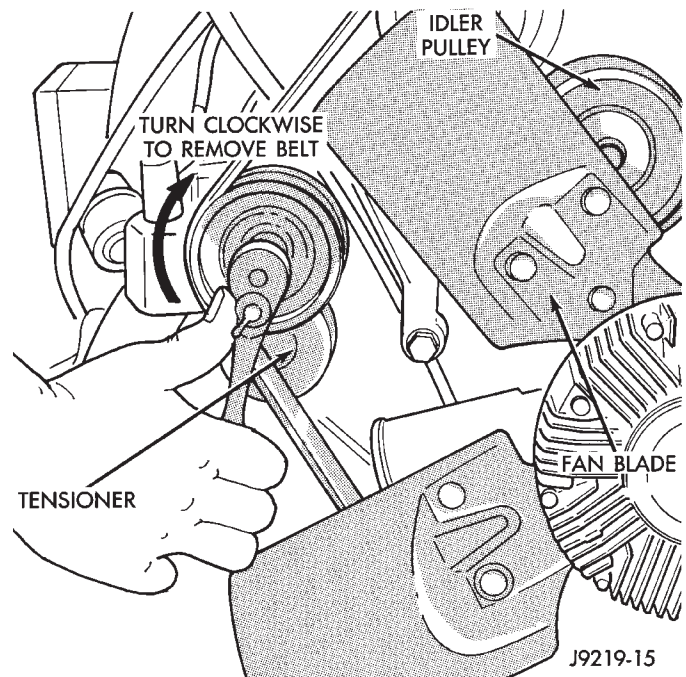
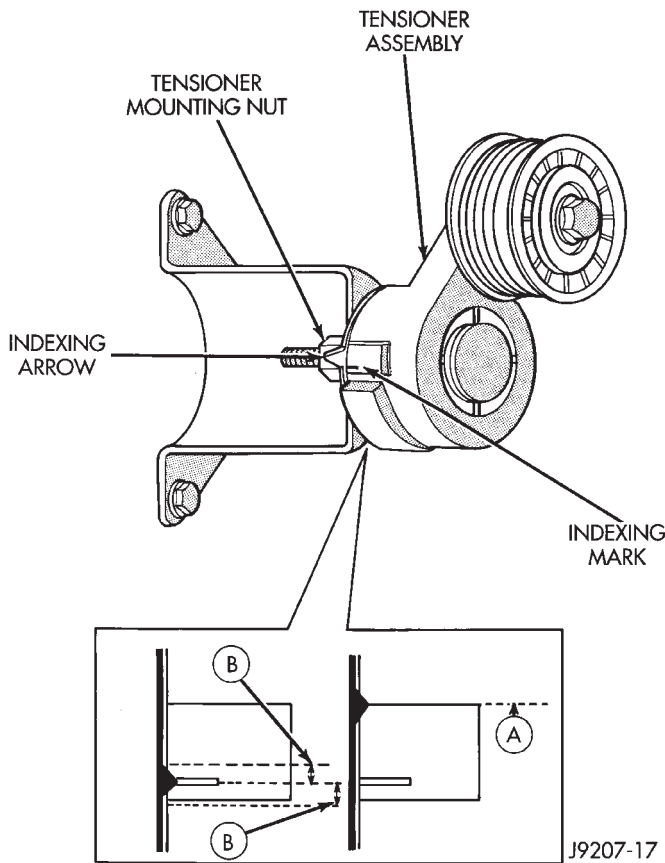

Fig. 7 Belt Tensioner—Belt Removal/Installation—5.2L Engine
Fig. 8 Belt Tensioner/Pulley Assembly—5.2L Engine
Drive belts on the 5.2L V-8 engine are equipped with a spring loaded automatic belt tensioner (Fig. 7). This belt tensioner will be used on all belt configurations, such as with or without power steering or air
(1) Attach a socket/wrench to pulley mounting bolt of automatic belt tensioner (Fig. 7).
(1) Position drive belt over all pulleys **except** idler pulley. This pulley is located between generator and A/C compressor.
(2) Attach a socket/wrench to pulley mounting bolt of automatic belt tensioner (Fig. 7).
(3) Rotate socket/wrench clockwise. Place belt over idler pulley. Let tensioner rotate back into place. Remove wrench. Be sure belt is properly seated on all pulleys.
(4) Check belt indexing marks. Refer to the proceeding Automatic Belt Tensioner—5.2L Engine for more belt information.
Drive belts on the 5.2L engine are equipped with a spring loaded automatic belt tensioner (Figs. 7 and 8). This belt tensioner will be used with all belt configurations. Such as with or without power steering or air conditioning.
The tensioner is equipped with an indexing arrow (Fig. 8) on back of tensioner and an indexing mark on tensioner housing. If a new belt is being installed, arrow must be within approximately 3 mm (1/8 in.) of indexing mark (Point B—Fig. 8). Belt is considered new if it has been used 15 minutes or less. If this specification cannot be met, check for:
A used belt should be replaced if tensioner indexing arrow has moved beyond point A (Fig. 8).
- (1) Attach a socket/wrench to mounting bolt of automatic belt tensioner pulley bolt (Fig. 7).
- (2) Rotate tensioner assembly clockwise (as viewed from front) until tension has been relieved from belt.
- (3) Remove belt from idler pulley first.
- (4) Remove belt from other pulleys.
- (5) Disconnect wiring and secondary cable from ignition coil.
- (6) Remove ignition coil from coil mounting bracket (two bolts). Do not remove coil mounting bracket from cylinder head.
- (7) Remove tensioner assembly from mounting bracket (one nut) (Fig. 8).
- (6) Attach a socket/wrench to pulley mounting bolt of automatic belt tensioner (Fig. 7).
- (7) Rotate socket/wrench clockwise. Place belt over idler pulley. Let tensioner rotate back into place. Remove wrench. Be sure belt is properly seated on all pulleys.
- (8) Check belt indexing marks.